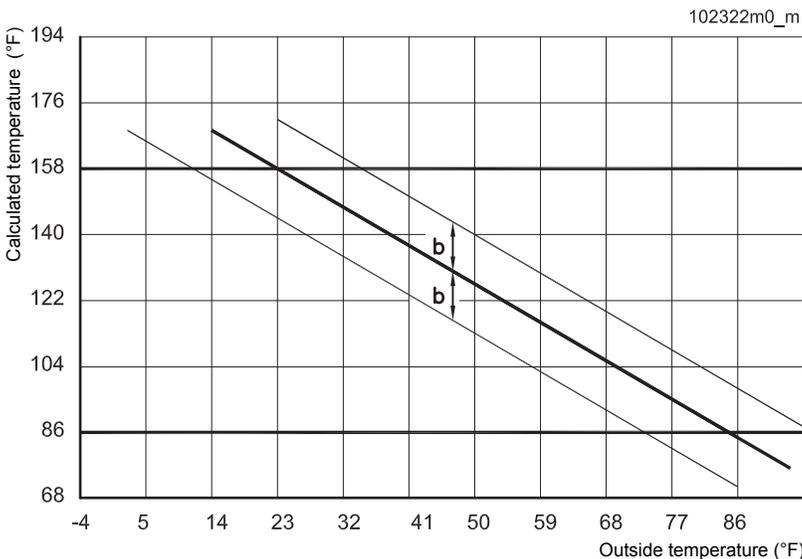

Figure 13-3 - Graphs of the outdoor reset adjustment (influence of parameter “b”)
- D - knob “7” in Figure 13-1 can be used to make the small line shifts, “b”, shown in Figure 13-3. These shifts will change the supply water temperature up to 18 °F (10 °C).